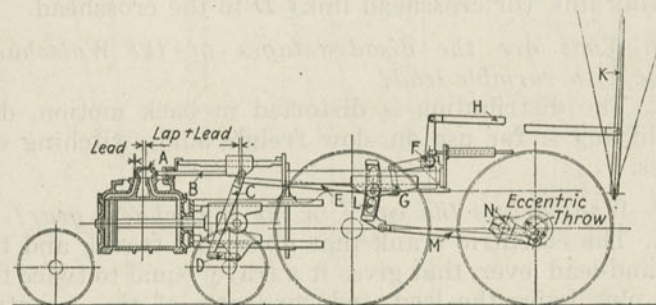
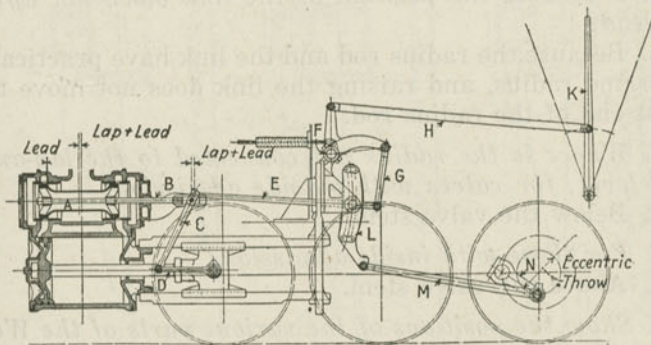

Fig. 297. Walschaert Gear, Baldwin Locomotive Works.
Fig. 298. Walschaert Gear, Baldwin Locomotive Works.
*A.* Referring to Fig. 297, showing it as applied by the Baldwin Works to outside admission slide valves, and Fig. 298, as applied by them to inside-admission piston valves:—the return crank (or eccentric crank) *N*, on the main pin, is so set that, if the radius rod *E* were attached